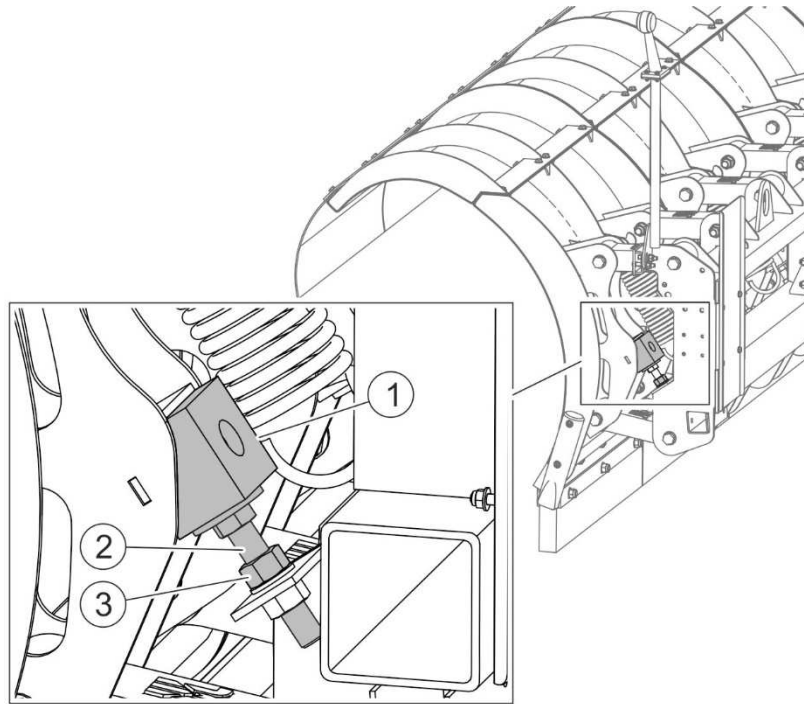

FIGURE 5.4 Adjustment of mouldboard segment
When an obstacle is encountered, individual mouldboard segments can independently raise and return to working position thanks to shock absorbing springs. The working height of each mouldboard segment can be adjusted by changing the distance between fender (1) (FIGURE 5.4) and the mouldboard segment bracket.